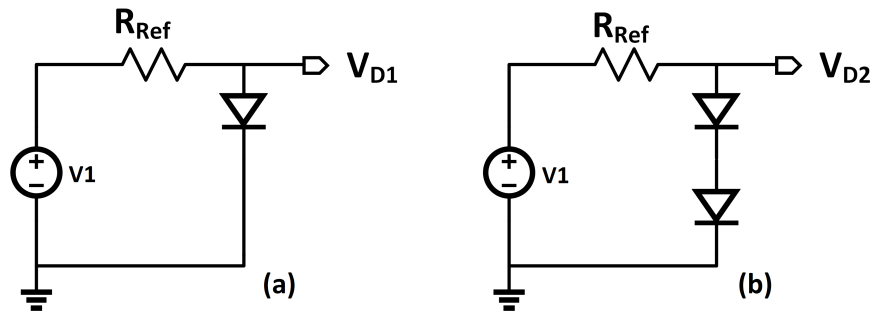

Figure 3: Left, one diode as a reference. Right, doubling our reference.
3. Draw the circuits shown in Fig. 3 in LTspice. Let  $\mathbf{V}_1 = 4 + 0.5 \sin(2\pi 100t)\text{V}$  and  $\mathbf{R}_{ref} = 1\text{k}\Omega$ . Make sure to use the 1N914 diodes as before. Perform a **transient** simulation on the circuits with the following parameters:
$\mathbf{R}_{ref}$	Fig. 3 (b)